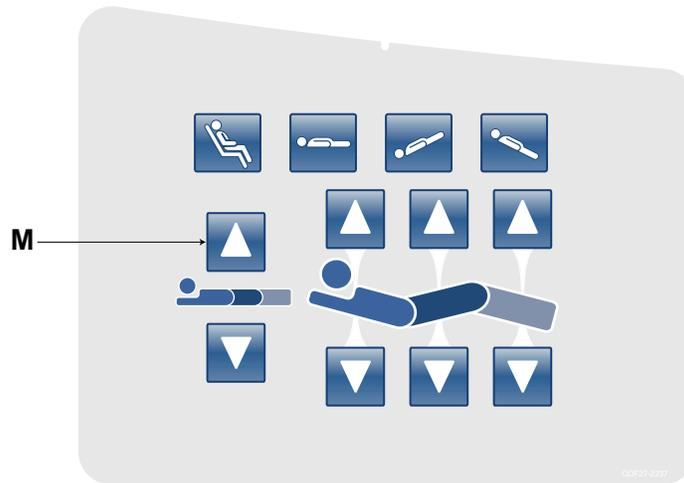

Figure 15 – Reverse Trendelenburg
19. To place the bed at -12 degrees Reverse Trendelenburg, press the **Bed Height Up (head lift up)** (M) button (Figure 15). Verify -12 degrees +/- 0.1 with the inclinometer you previously placed on the bottom of the litter frame in step 11.